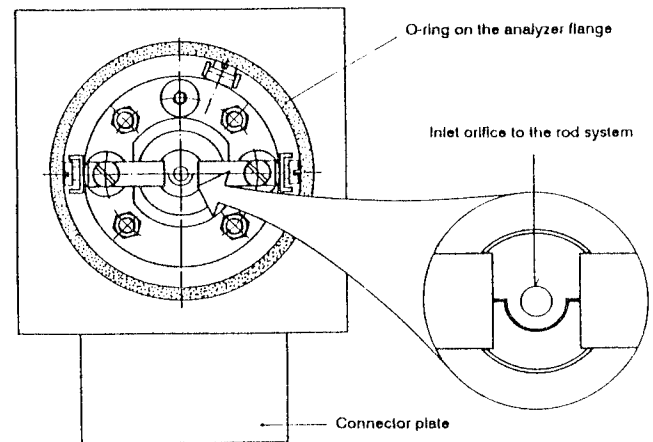

Fig. 10c
- Install the new filament so that the arc is facing toward the analyzer connector plate (Fig. 10c).